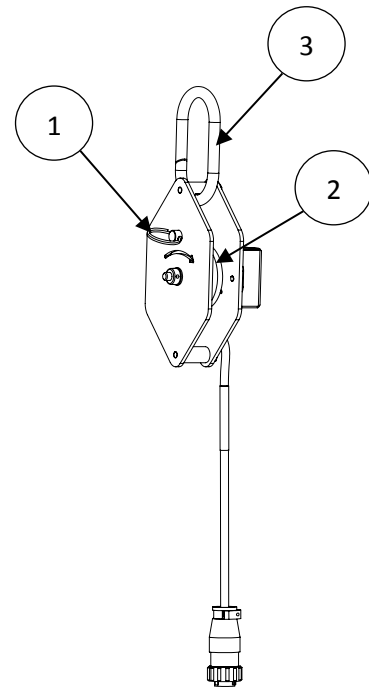

Figure 5
3. Remove the quick release pin (Figure 5 Item 1) by pulling it out of the sheave assembly. Thread the camera cable through the sheave assembly following the direction of the arrow. Lay the cable over the sheave wheel (Figure 5 Item 2) with the cable head in the direction of the arrow. Then place the quick release pin (Figure 5 Item 1) back into position to trap the cable. Once the mounting clip (Figure 5 Item 3) is clipped to the assembly, you are ready to mount it to the tripod.